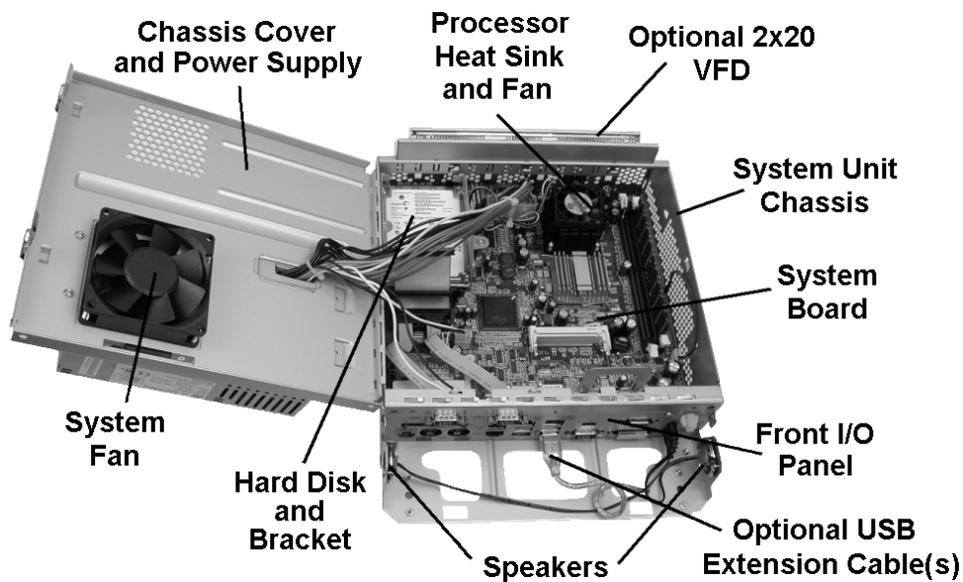

Figure 3-8: PCWS 2010 - Chassis Cover Open
16. Open the cover, placing it to the left of the chassis. Figure 3-8 points out the major components, described in greater detail in the following pages.